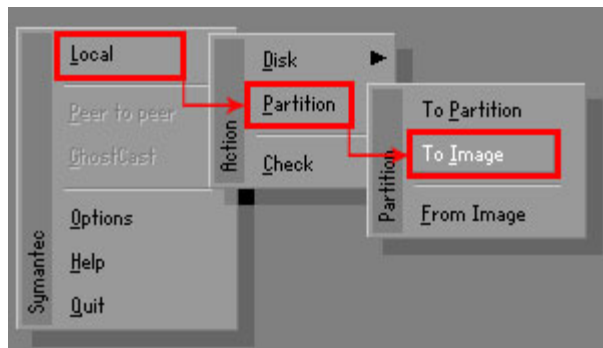

Figure A-10: Symantec Ghost Path
Step 4: Use mouse to navigate to the option shown below (**Figure A-10**).